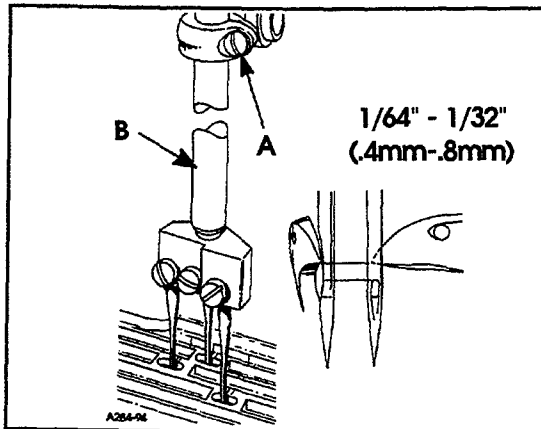

FIG. 9
The height of the needle bar is correct when the top of the needle eye is  $1/64"$  to  $1/32"$  (0.4mm - 0.8mm) below the underside of the looper, with the looper point even with the right side of the needle. To make adjustment loosen screw (A, Fig. 9) and move needle bar (B) as required to attain dimension.